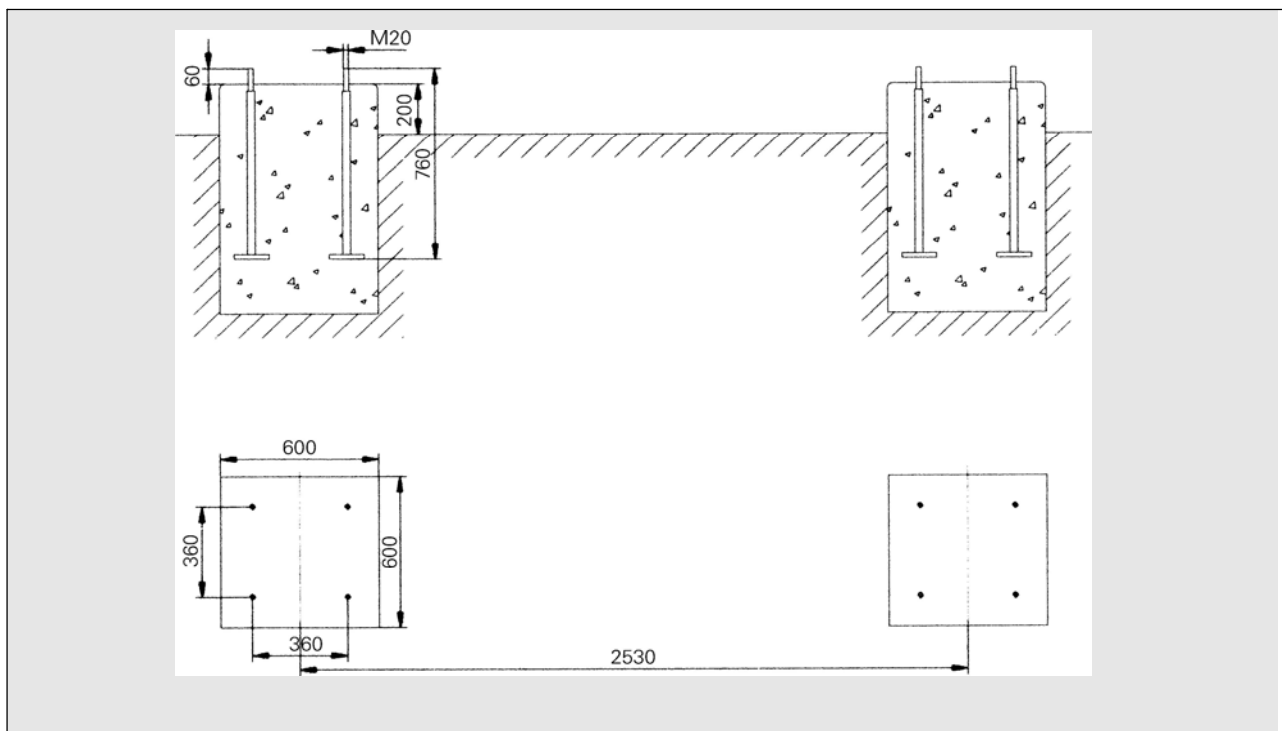
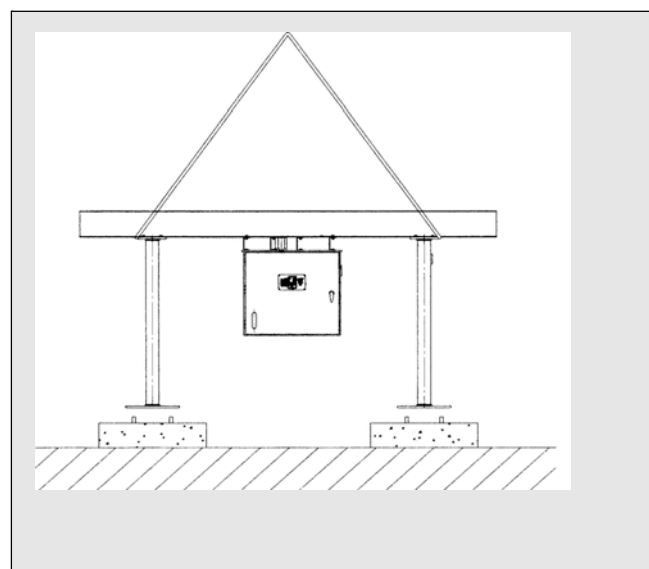

Figure 10. Foundation Installation
figure 11. Base Installation
- Before installing the circuit breaker, check if the anchor bolts (8-M20×600/GB799-88) are in accordance with the specifications and the length of the extended part of the bolts meets the specified requirements. Check the levelness of the foundation with level meter and the height difference between the surfaces of two foundations should be less than 2 mm (see figure 10).
The circuit breaker base and the operating mechanism pack the exwork together, after hitting foundation like figure 10, lifts with the hoisting equipment the base module to the ground see figure 11, sse 8 nuts M20 to fix it in the ground. After the base installs the fastening, adjusts the base plane with the horizon, levelness should not be bigger than 2mm.